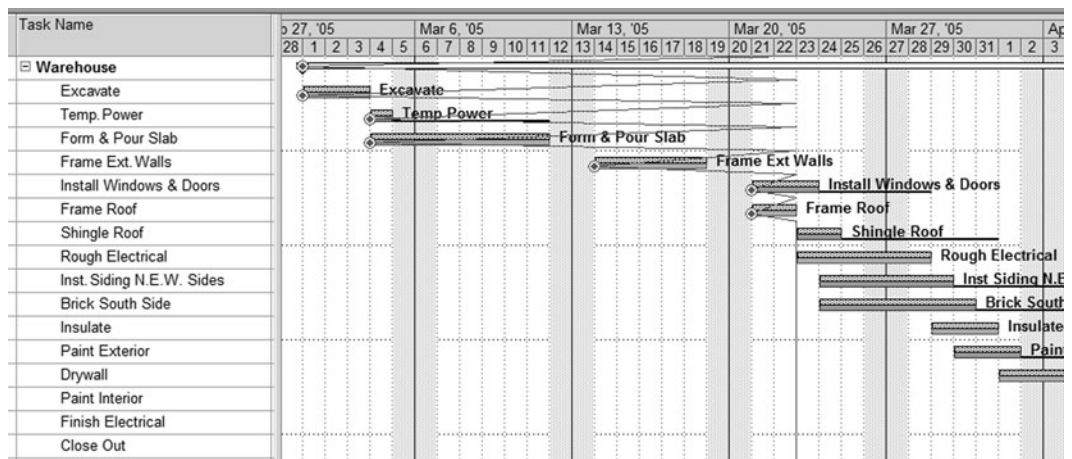

FIGURE 22.24 Status date lines
3. **Format the bars** to show the baseline by using the **Gantt Chart Wizard**. Use the following steps within the wizard: (A) Open the wizard by clicking on the Gantt Chart Wizard button ; (B) Custom Gantt Chart; (C) Critical displayed differently—Yes; (D) Next; (E) Next; (F) Next; (G) Next; (H) Baseline & Slack; (I) Custom Task information; (J) select name to right of the bar; (K) Next; (L) Next; (M) No links or as desired; (N) Format It and Exit the Wizard. Now you see the target bars on top of the current bars.
5. **Show the Status Date Line** (Today's Date) by selecting **Tools, Tracking, Progress Lines**, and normally you would put a check mark by **Always Display** and then select **Current Date**. However, for this project select the **Status Date** in order to fool the program into thinking a future date is today. You are going to update the schedule on the day that *Frame Roof* should have been completed by (note that date). Select **Project, Project Information**, then enter that date as the **Status Date**. This fools the program into thinking that that date is today. Again, normally you simply choose the **Current Date** which will be the date of the update. The schedule should now look similar to Figure 22.24.